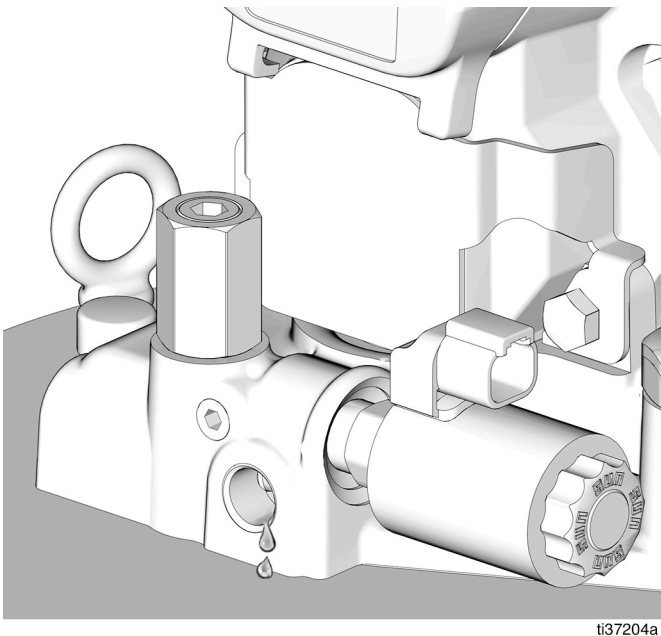

FIG. 19
1. After the tank (K) is completely filled, remove the high pressure lubricant supply line (D) from the outlet.
2. Connect power to the pump (B).
3. Start the pump (B) and run until all of the air has been expelled and fluid flow is continuous (FIG. 19).